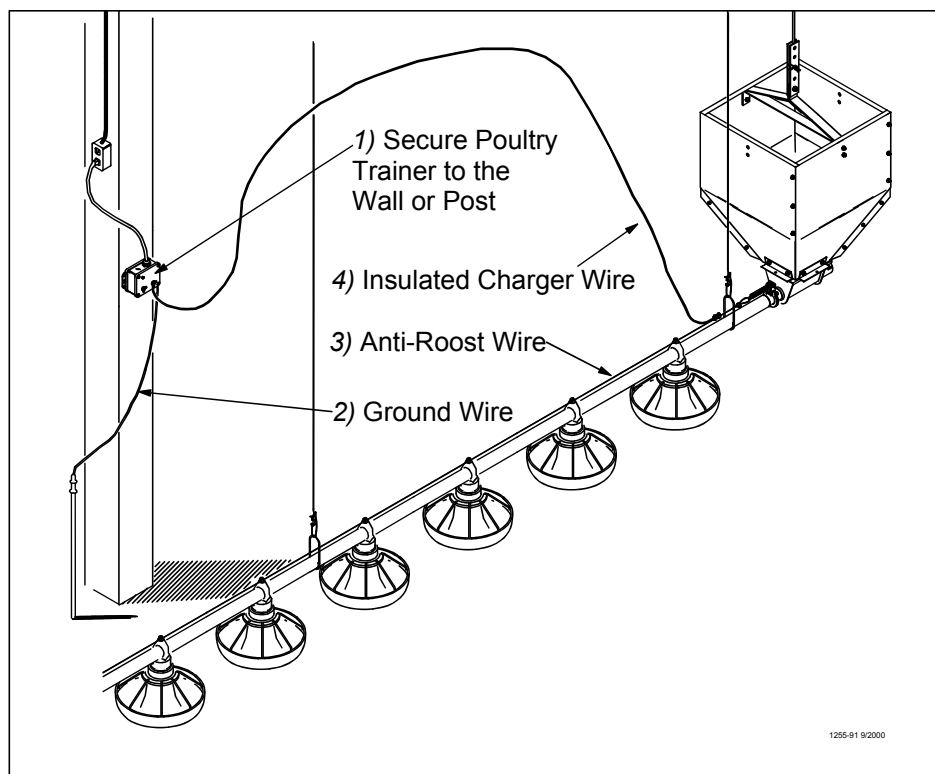

Figure 65 Poultry Trainer Installation
11. Install the Poultry Trainer or Line Charger, as shown in **Figure 65** or **66**.
The Poultry Trainer is used to power all Anti-Roost lines in a house. See **Figure 65**.